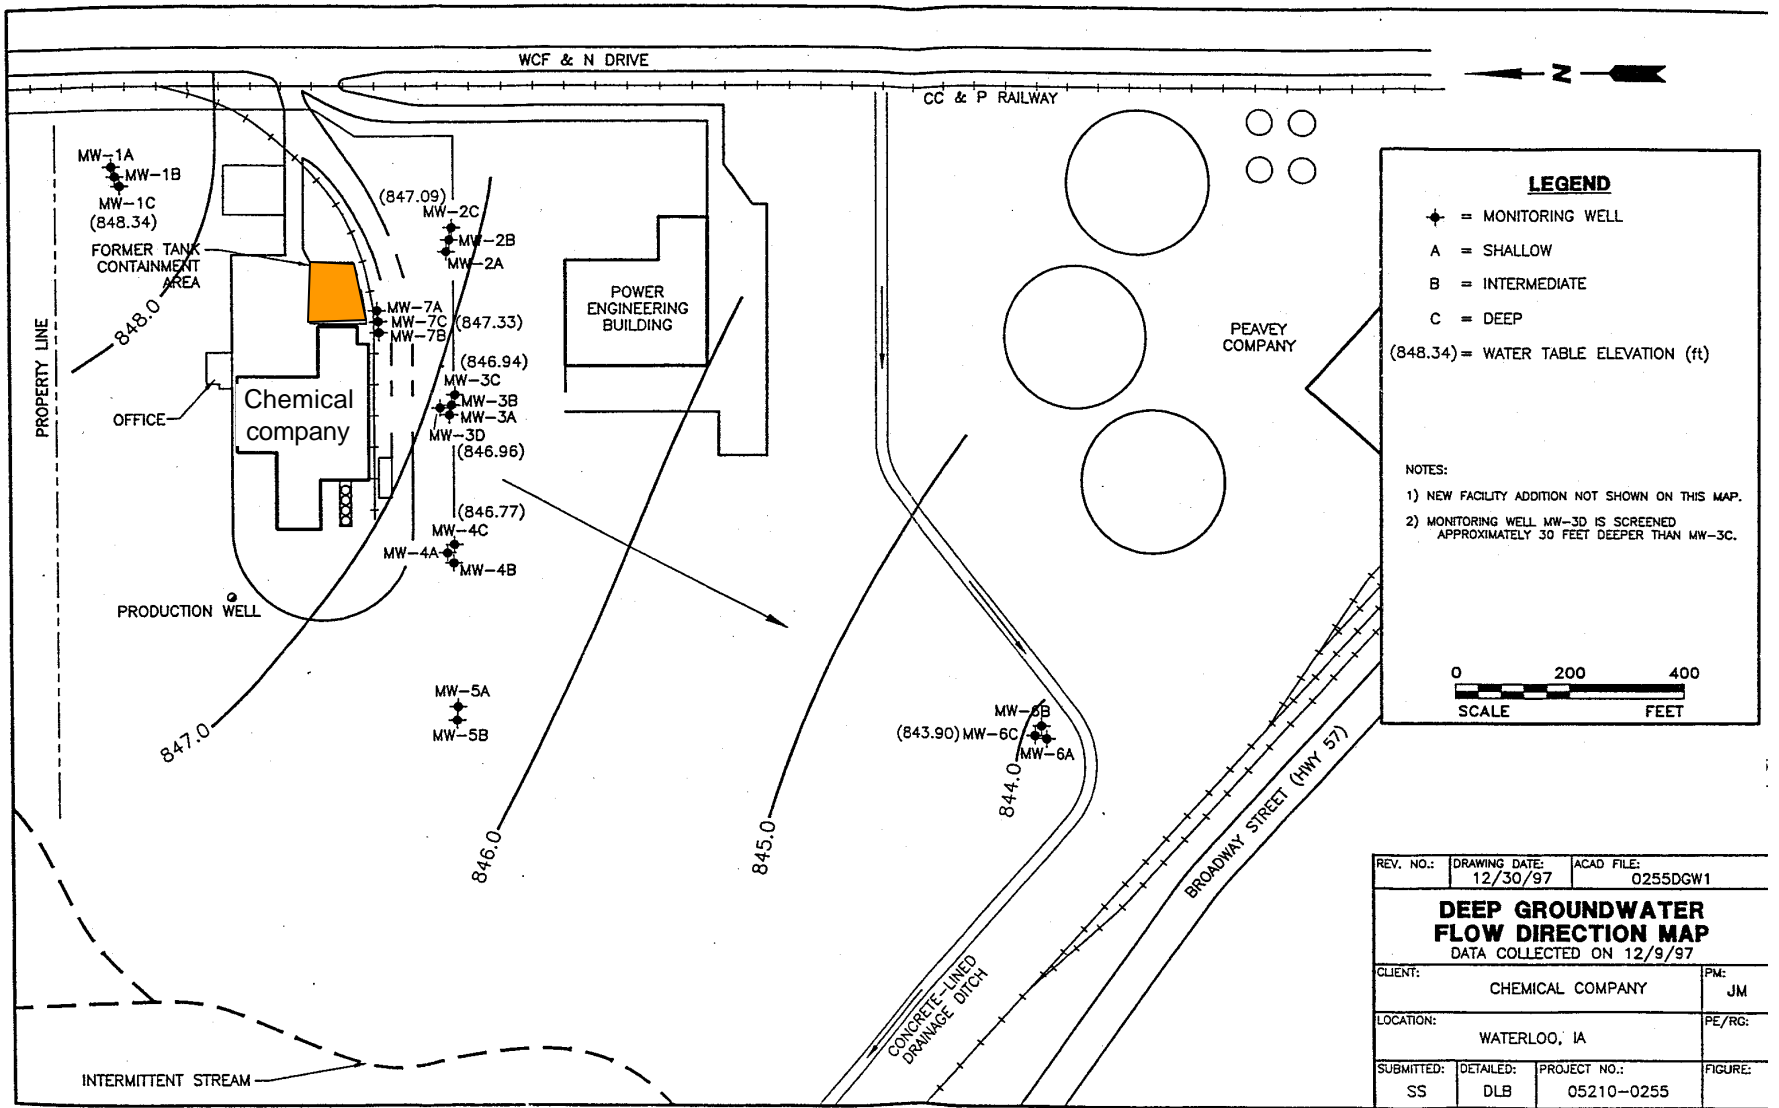
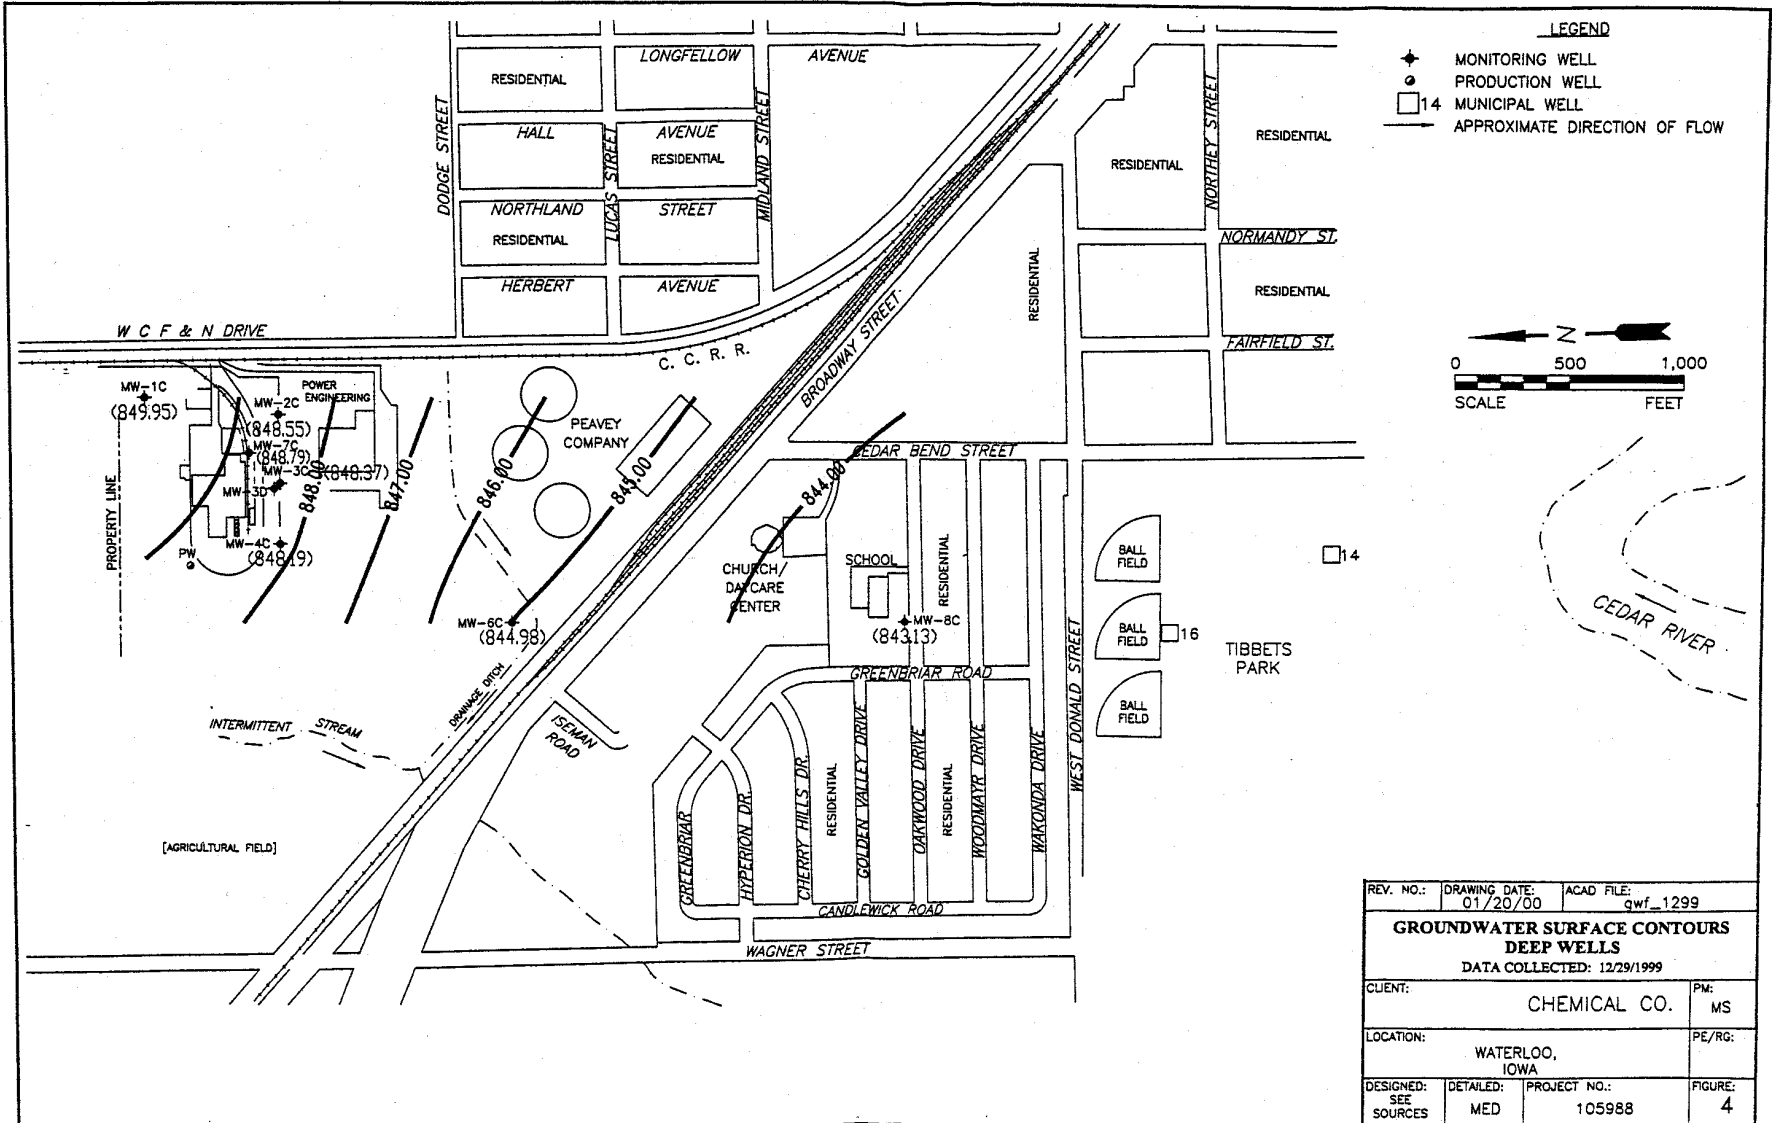

Figure 1 – Chemical company site area
Figure 2 – Chemical company off-site area
1,1,1-TCA, TCE, and related compounds have been found in the limestone at the MW-7 well cluster in high concentrations, as well as at the MW-3 and MW-6 clusters (see Figure 1 and Table 1). These chemicals have not been found at the MW-8 well cluster. Nonetheless, there is concern that the contaminants could migrate to public water supply wells 14 and 16, which are located in Tibbets Park south of the site (see Figure 2).
You can assume that the source of the contaminants is the tank farm northeast of MW-7. (Note that north is to the left in Figure 1.) The tank farm is shaded in Figure 1 and labeled "Former Tank Containment Area." Eye witnesses report an above-ground storage tank ruptured in 1978 in the tank farm and that is a possible source of contamination as well as day-to-day operations. You can assume the subsurface extent of the source area is 50 feet wide and 50 feet thick.
- a) Determine the hydraulic gradient from the site to the supply wells based on the December 1999 water-level measurements in Figure 2. (1 points)